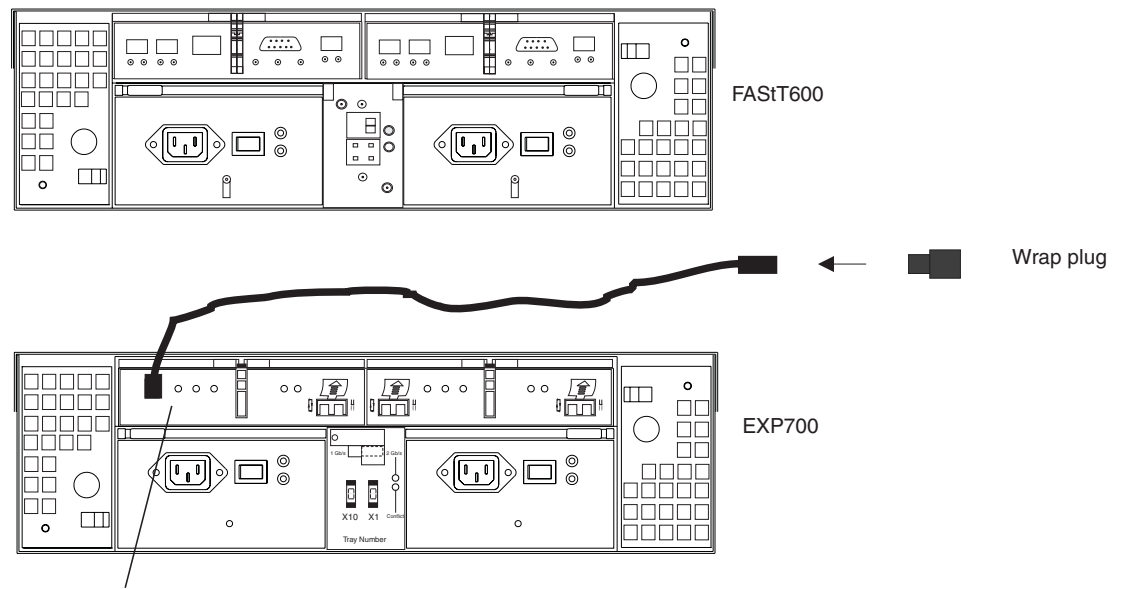

Figure 90. Inserting a wrap plug onto a copper cable
2. Insert the FC copper cable wrap plug into the unplugged cable end. See Figure 90. Record the state of the port bypass light on the end where the FC copper cable is still inserted.